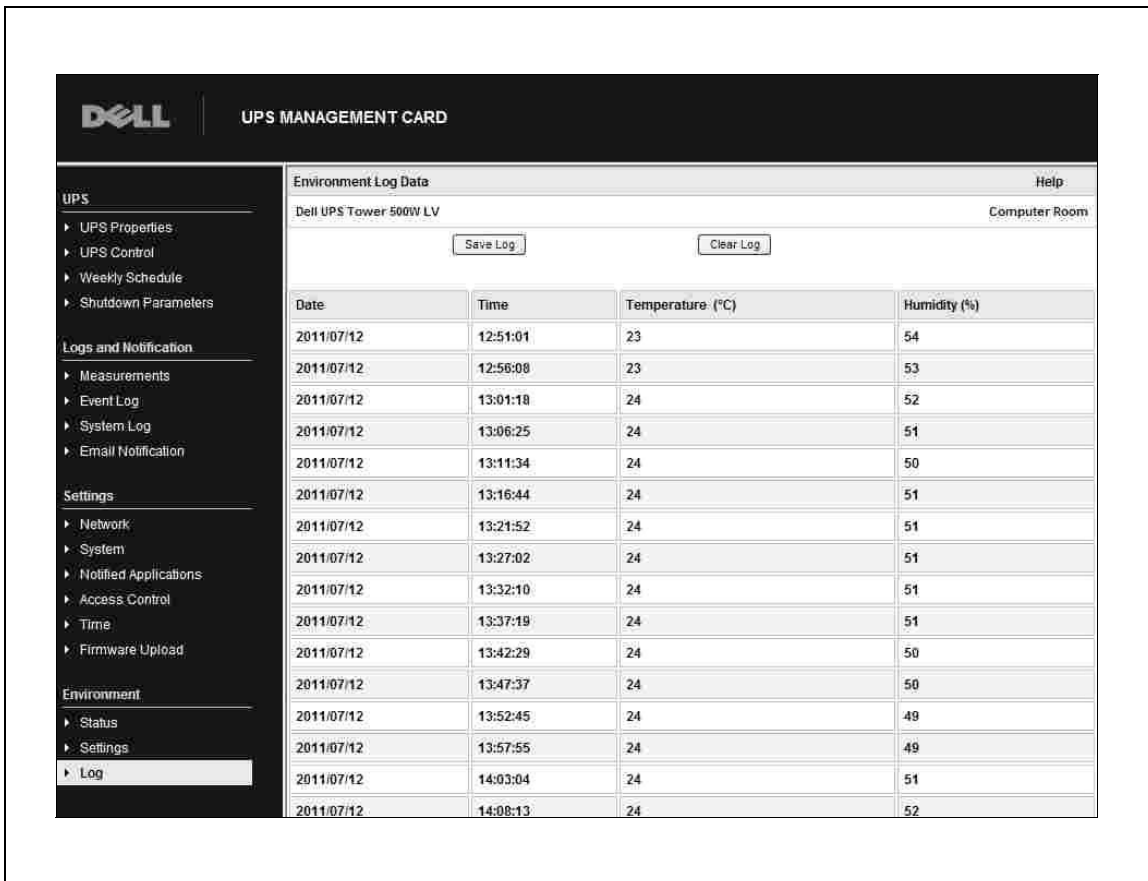

Figure 8. Environment Log Data page
- 1 Select **Log** from the Environment menu to display the Environment Log Data page. The Environment Log Data page displays the recorded date, time, temperature, and humidity measurements (see Figure 8).